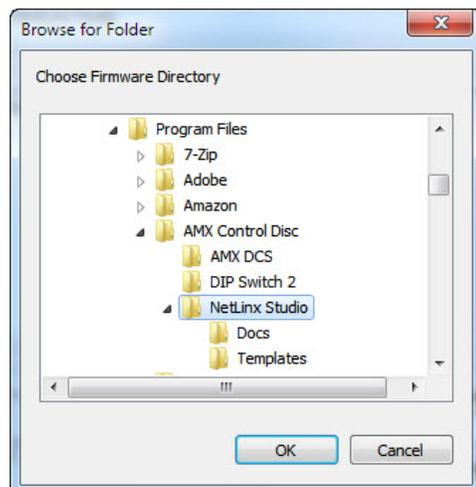

FIG. 103 Browse For Folder dialog box (NetLinx Studio)
2. Click the Browse (...) button to navigate to the target directory in the Browse For Folder dialog box (FIG. 103).